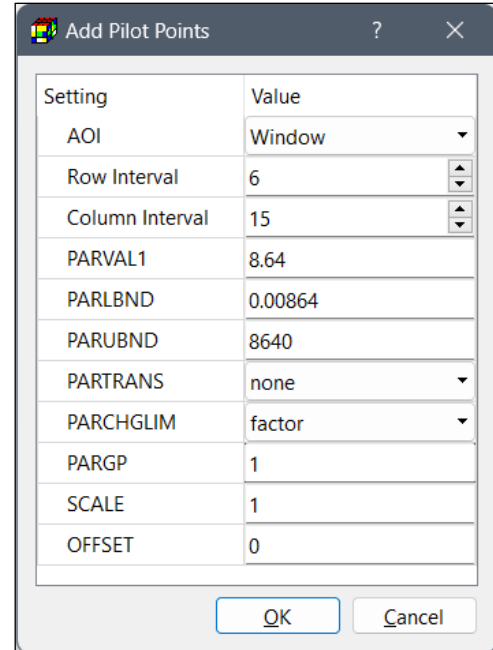

Figure 27. The Add Pilot Points dialog box
- Ctrl-drag a window covering the desired area, then release the mouse button to open the Add Pilot Points dialog box (Figure 27). Enter the pilot point parameters, then click OK to add pilot points. The features of the dialog box are as follows.